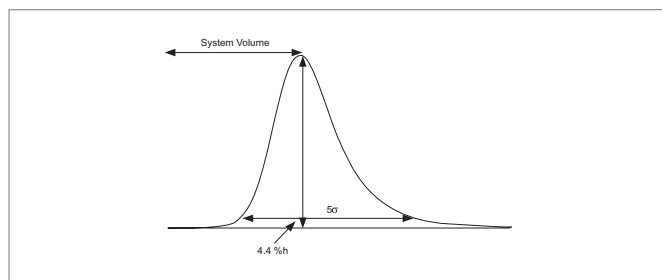

Figure 6: Determination of System Bandspread Volume using the 5-Sigma Method
- Bandspread (μL) = PW (seconds)/60 (see Figure 6)